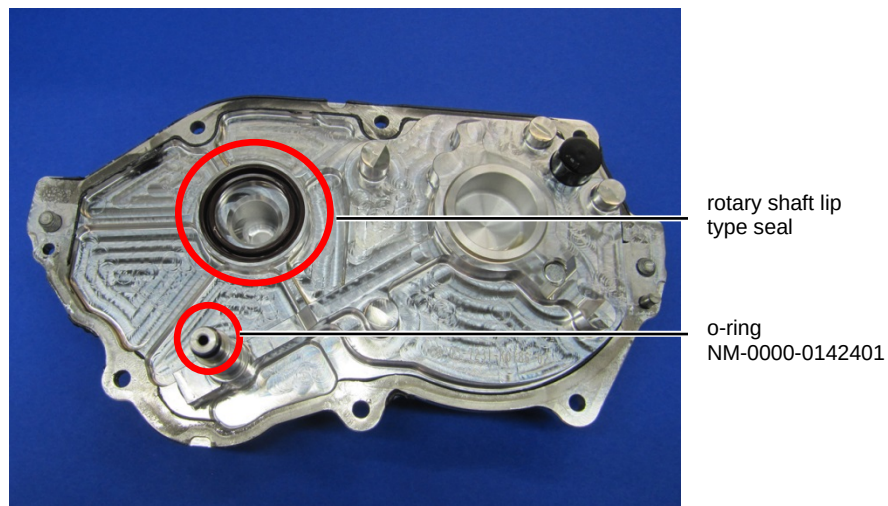

Figure 6
9. Inspect the rotary shaft lip type seal, replace if necessary. See figure 6.